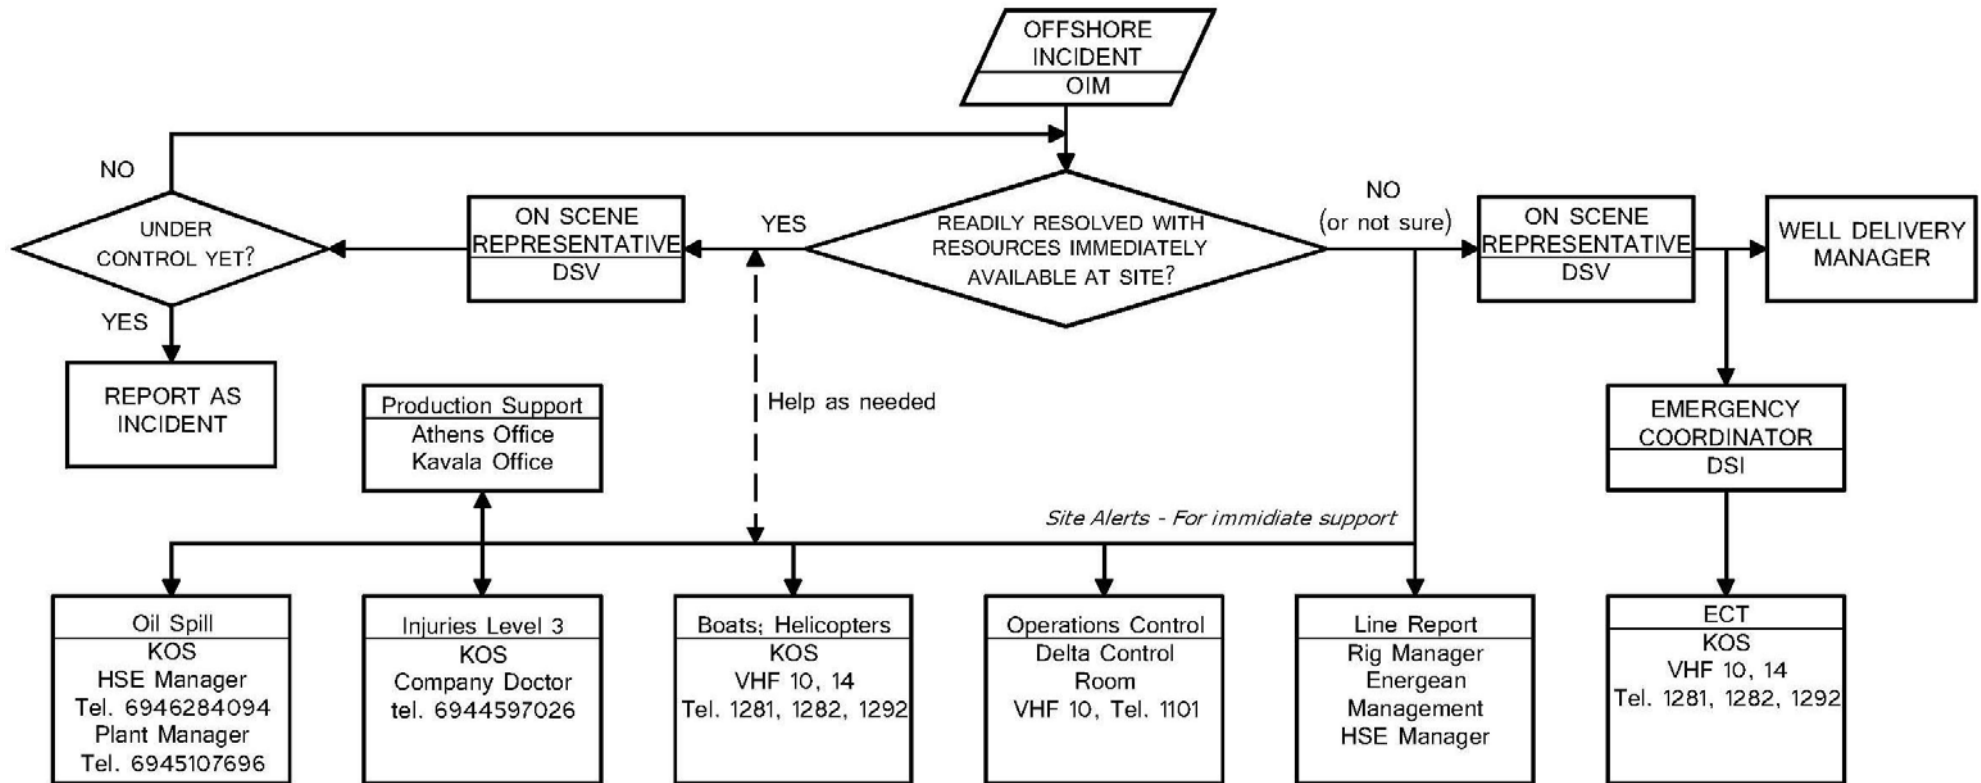

Figure 1 – Emergency Alerts and Reporting
The EF OIM, with help from the DSV should co-ordinate the gathering of information regarding any emergency related to the drilling activities undertaken, assessing the status of the incident. The DSV shall be reporting to the Emergency Coordinator (EC) and the Well Delivery Manager. The Duty EC will communicate with the Well Delivery Manager and decide whether to call the Emergency Co-ordination Team (ECT), in base. This includes operational situations, which may cause injury to personnel, damage to equipment or the asset, marine pollution and emergency relating to health. Figure 1 below shows an overview for the process of reporting Emergency Alerts.